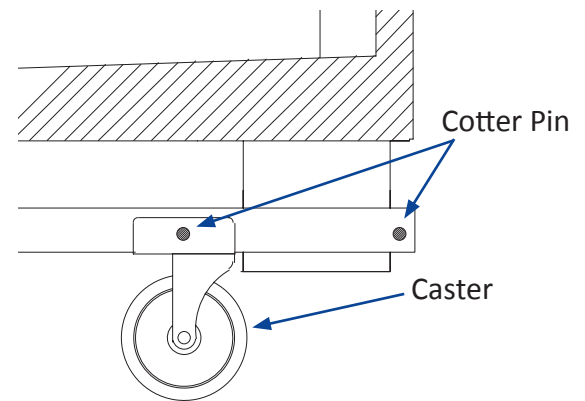

Fig 1. Removing Casters
- Leave a minimum of 3" between the wall and back of case. Using a J bar, raise the end of the case, remove the caster assembly (Fig. 1) and lower the base on to the shims. Repeat on the other end of the case.